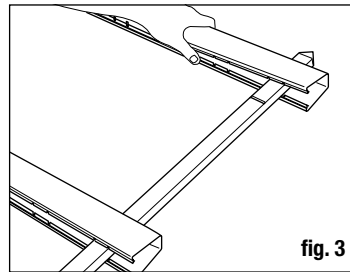

fig. 3
- Continue to push the picket through the bottom rail into the throat and hole of the second rail (fig. 3). The second rail becomes the top rail of the assembly. Stop when the tab in the bottom rail and the notch on the picket align. **DO NOT SNAP INTO PLACE.**